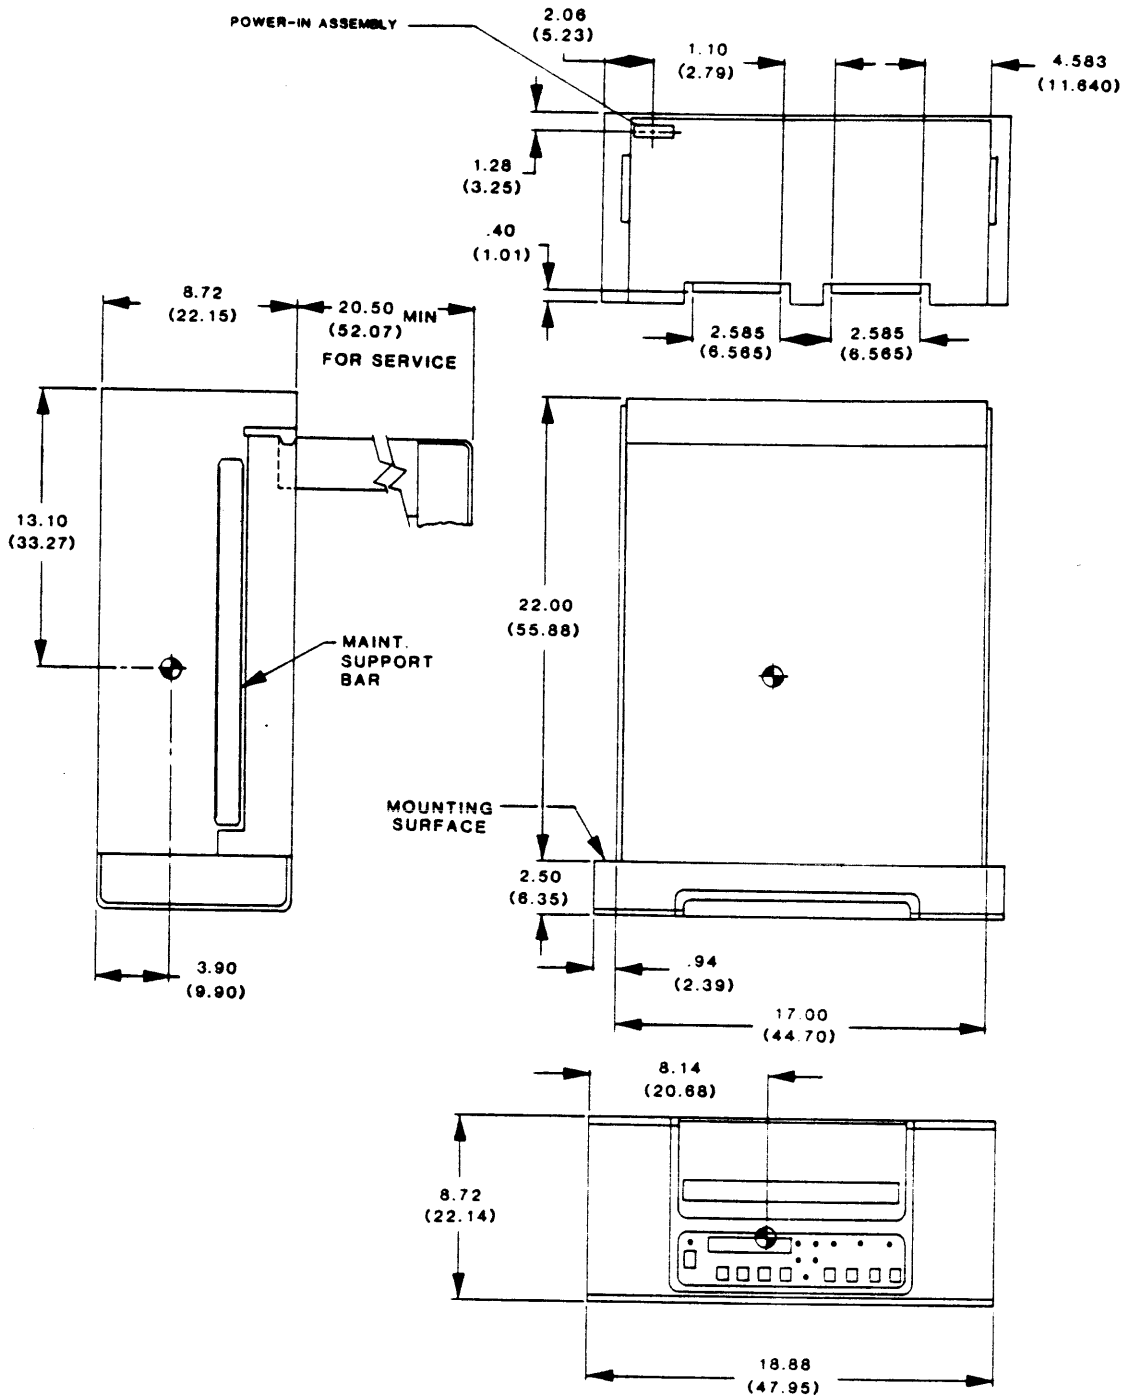
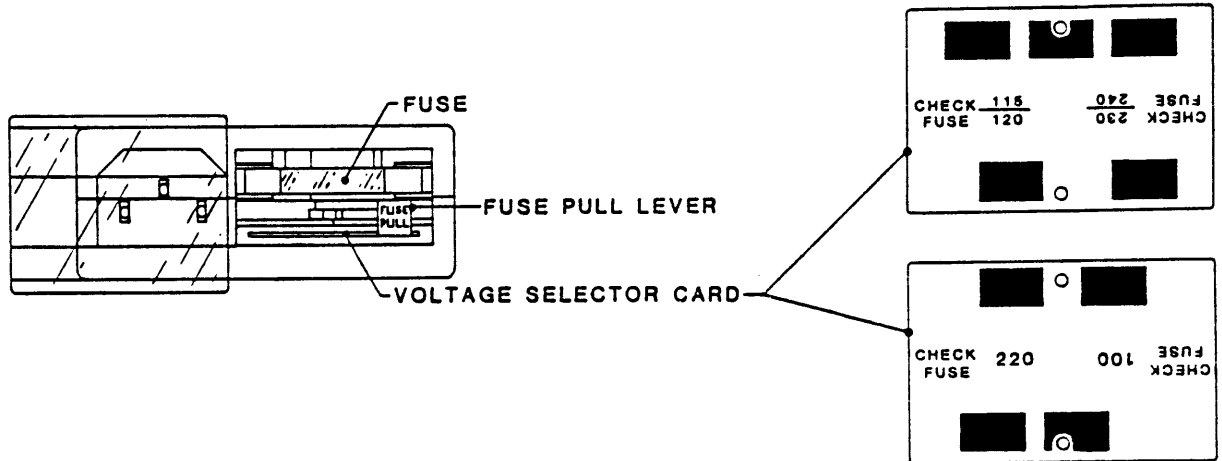

Figure 2-6. Outline And Installation Drawing, Model 9600B
Figure 2-9. Power-In Assembly
Place the Drive on a flat table top with dimensions to accommodate the Drive (Figure 2-6), of sufficient strength to support the weight of the Drive, and allow sufficient clearance for maintenance access. Do Steps E and F in paragraph 2.4.2.2.
The Drive is normally factory-set for 120-volt operation. Other voltage choices can be 100, 220, or 240. Locate the Power-In Assembly (Figure 2-9) at the rear of the unit (Figure 2-6). The Voltage Selector Card behind the plastic slide cover is installed with "120" legible. This indicates that the Drive is set for 120-volt operation. The following subparagraph describes changing this setting as necessary.
- A. Remove the AC power cord (if installed) from the Power-In Assembly (Figure 2-9).